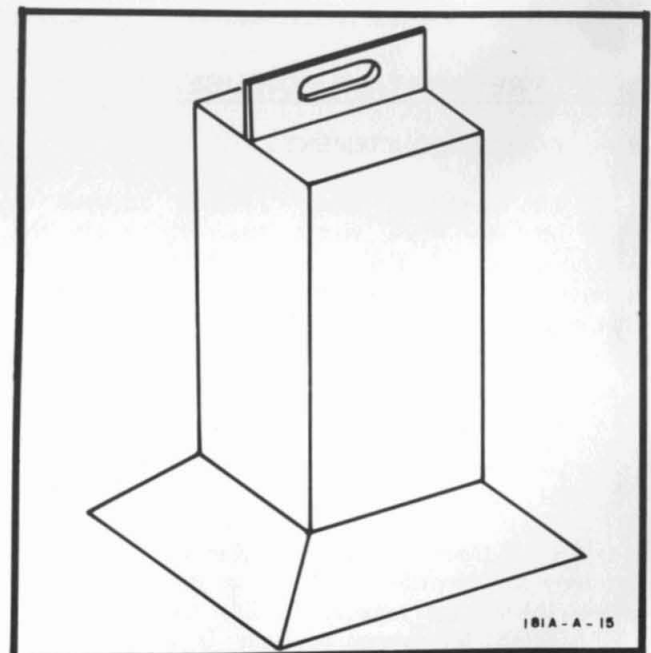

Figure 2-1. CRT Shipping Container
b. Place cardboard on sides and bottom of shipping carton as shown in figure 2-1.